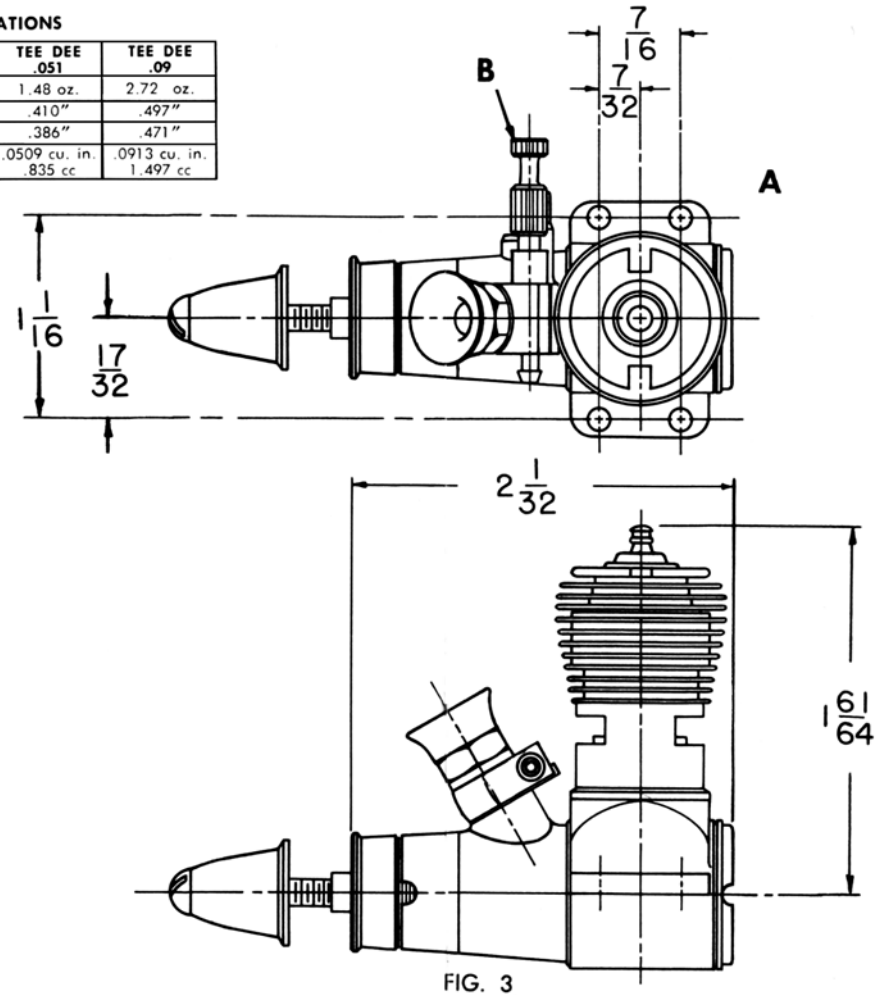

FIG. 3
1. Mount the engine in the plane, or if you want to give it some running first, mount it on a suitable mount. Do not hold the engine directly in a vise. Use A-Fig. 2, or A-Fig. 3 as a template to drill mounting holes.
1. Close the carburetor needle valve, B-Fig. 2, or B-Fig. 3, by turning it clockwise until it stops. Do not force it.